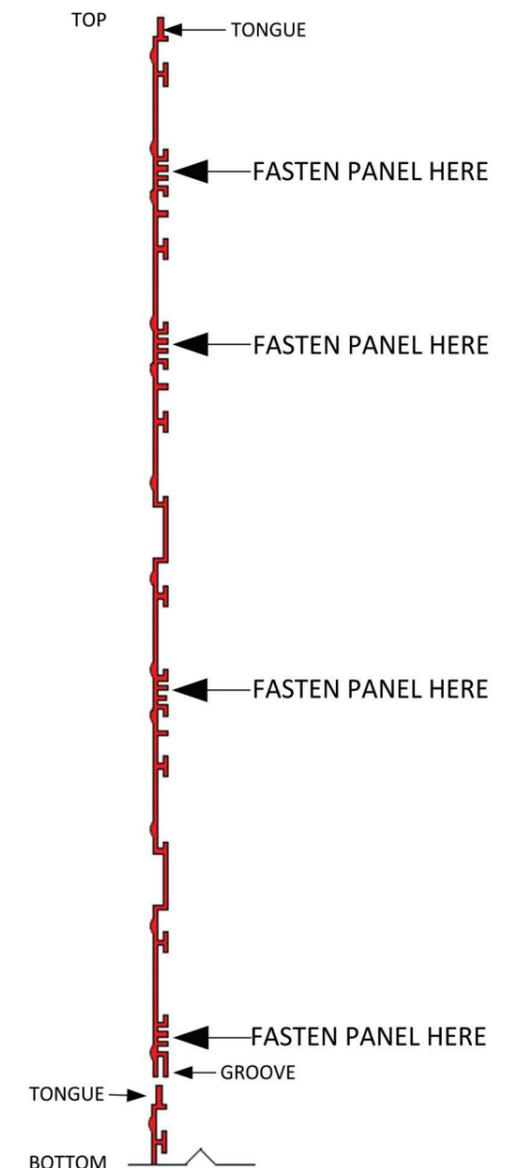

FIGURE 3
- Fasten Stone Lath on the fastener strips. **(See figure 3)**